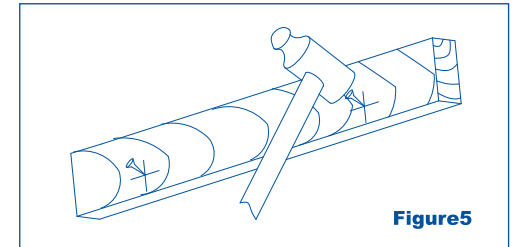

Figure5
b) Remove housing temporarily and pound nails partially into joists at all four marked locations (Figure5).